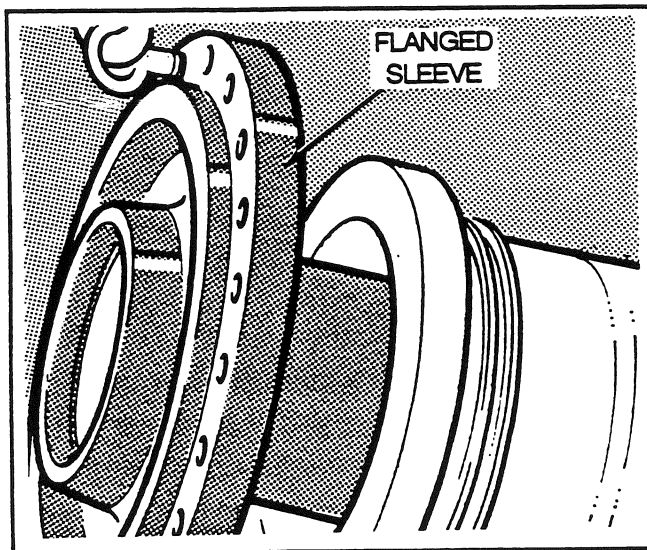

Fig. 99
1. Lubricate and install the seal. Lubricate and install new inner and outer thrust plates. Install a lifting eye in the flanged sleeve. Install the flanged sleeve using a safe lifting device (see Fig. 99). Remove the lifting eye.